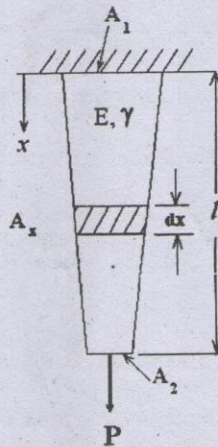

Fig.11(b)
- (b) Derive the governing equation for a tapered rod fixed at one end and subjected to its own self weight and a force  $P$  at the other end as shown in Fig.11(b). Let the length of the bar be  $l$  and let the cross section vary linearly from  $A_1$  at the top fixed end to  $A_2$  at the free end.  $E$  and  $\gamma$  represent the Young's modulus and specific weight of the material of the bar. Convert this equation into its weak form and hence determine the matrices for solving using the Ritz technique.